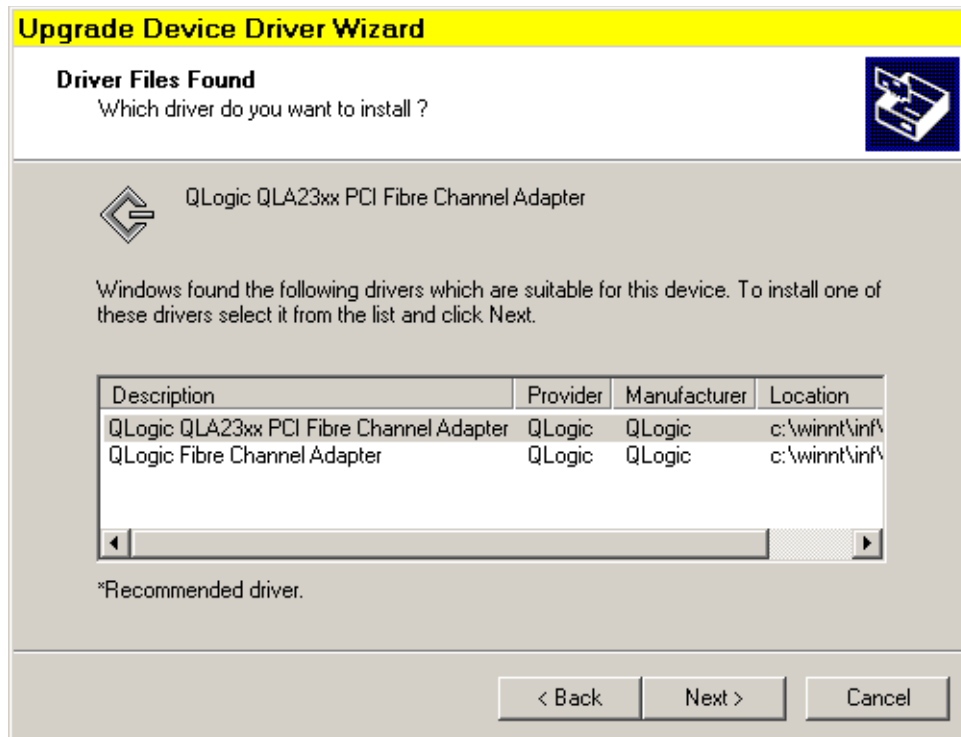

Figure 7 Driver Files Found dialog
13. Select the driver with the source of the directory into which you unzipped the drivers. Do not select the driver in the windows directory. See Figure 7. **Make sure you check the path of the driver you are installing.**